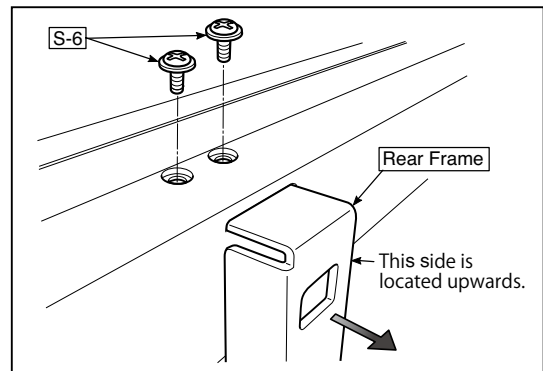

Fig.22
9) Remove the Rear Frame. (See Fig. 22)
1. Remove the "S-6" screws shown in the figure 22 and then remove the Rear Frame (two).